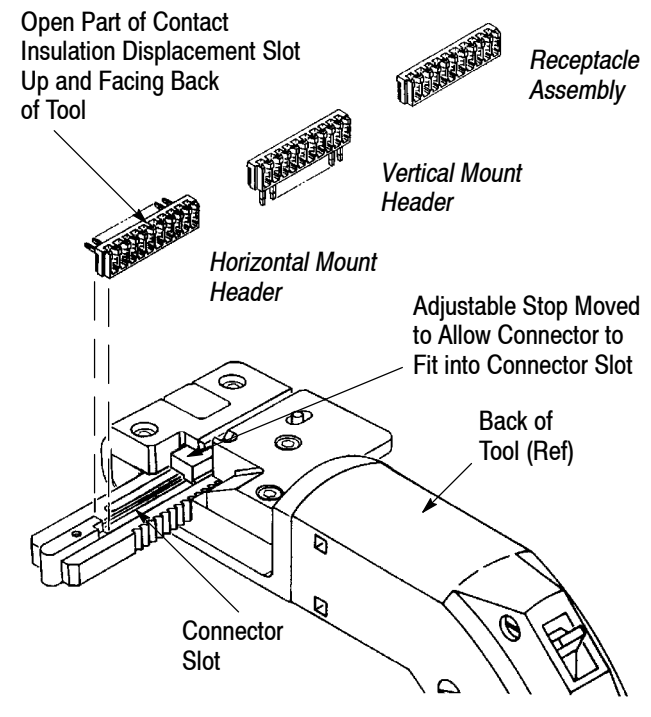

Figure 3
2. Orient the connector with the head assembly as shown in Figure 3 — the open part of the insulation displacement slot is up and facing the back of the tool. Making sure that the connector slot is large enough to accept the connector, fit the connector in slot. Then move the adjustable stop flush against the connector, and tighten the socket head